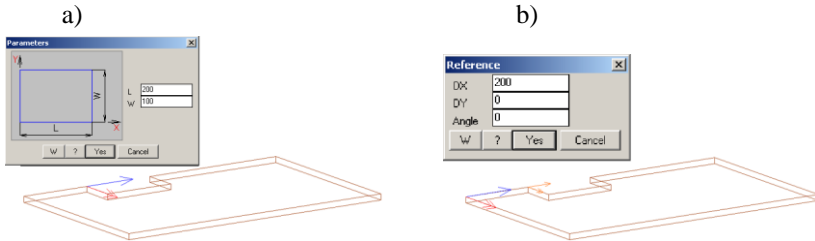

Fig. 4.1 “Cut on side” operation
Operation is an action which creates a new object element, for example a new base point or a cut on a side. There is a cut on a side example in the fig. 4.1. The cut on a side is determined with two parameters, see fig. 4.1 a), and with reference parameters, see fig. 4.1 b). The operation reference determines the operation position concerning operation base point.
- Operation parameters, these are “L” (cut length) and “W” (cut width) in above mentioned example. Note, “L” is determined along X-axis of the operation CS (look at the operation slide and at the Part, fig. 4.1 a)).
- Operation reference parameter. These are offsets along X and Y-axis and an operation rotation angle, for example, look at the operation parameters slide, fig. 4.1 b).
The operation reference parameters set the operation position on the object concerning an operation base point, see fig. 4.1. b), page 153.